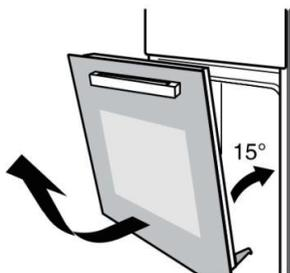

Figure 2
- Close the oven door, at about 15 degrees, then lift the door, and slowly pull out from the oven. (Figure 2)